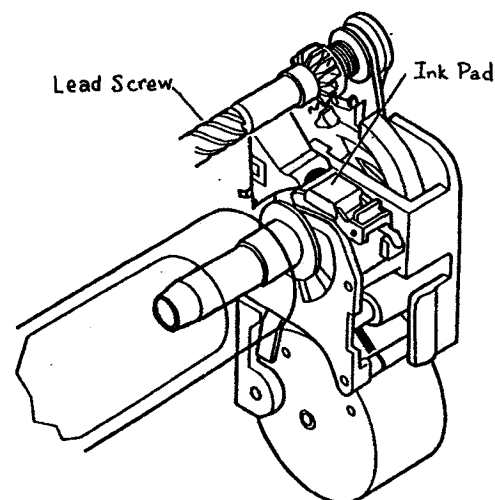

Figure 1: Right Side of TIP (showing ink pad)
3. Find the lead screw, which runs the length of the printer. Rotate the lead screw until the print cartridge begins to move to the left. If the print cartridge does not move, rotate the lead screw in the opposite direction. Continue turning the lead screw until the print cartridge moves three or four inches to the left. The ink pad will be exposed (See Figure 1).